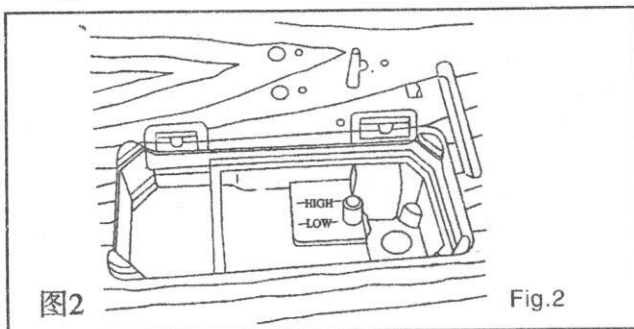
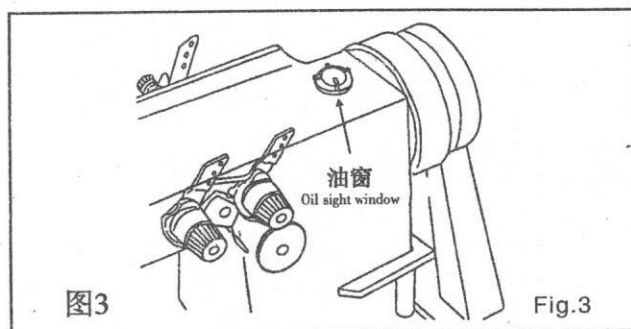

图2 Fig.2
图3 Fig.3
五. 加油 (图2.图3) Oiling(Fig.2,3)
- 1、向油盘内加缝纫机油(2号白油)至HIGH记号部位 (图2)
- 3、加油后开动机器, 润滑正常时, 应看到油液喷到油窗上 (图3)。至于喷到油窗上的油量多少与总油量的多少有关, 所以不必担心。
1. Oiling shall be made in oil reservoir and the oil surface also be made to level the mark "High" before the machine is started running (Fig.2)
2. Oiling shall be kept on until the oil surface has been brought above the mark "Low" (Fig.3)